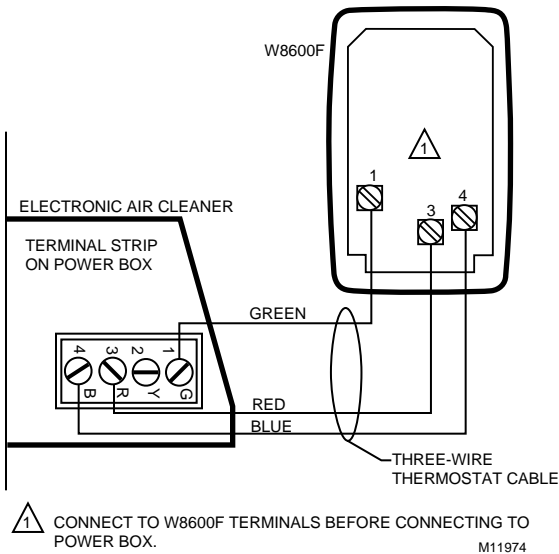

Fig. 12. Wiring W8600F to F50F power box terminal strip (two-cell model).
12. Connect the three wires from the W8600F to the EAC terminals 1, 3 and 4. See Fig 12.